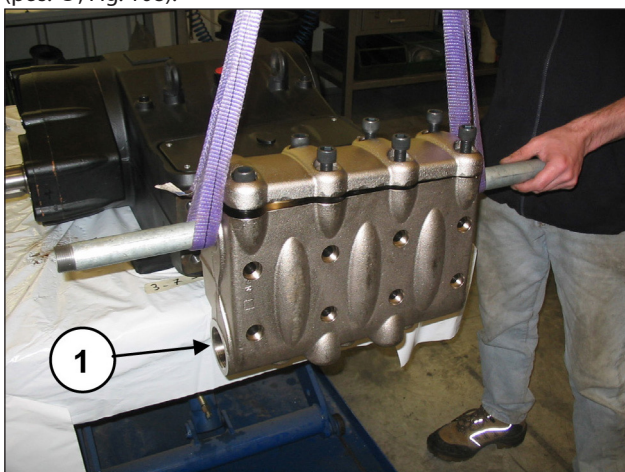
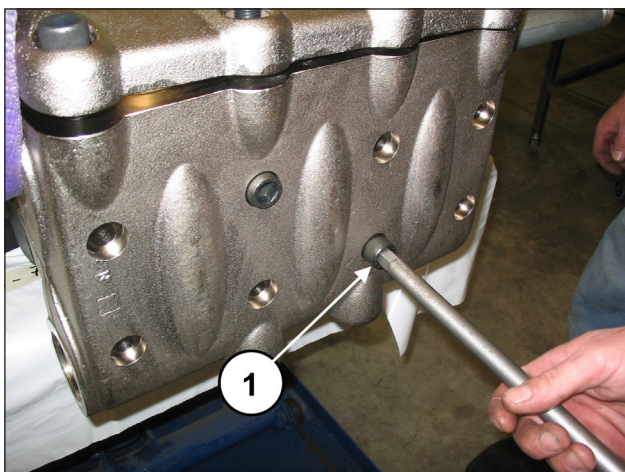

Fig. 107
Fig. 108
Assemble the pump casing head (pos. ①, Fig. 107) taking care not to hit the pistons and screw in the 8 M16x180 screws (pos. ①, Fig. 108).
Tighten the 8 M16x180 screws starting crosswise from the 4 inner screws (see Fig. 107), to then continue with the 4 outer screws, always tightening crosswise